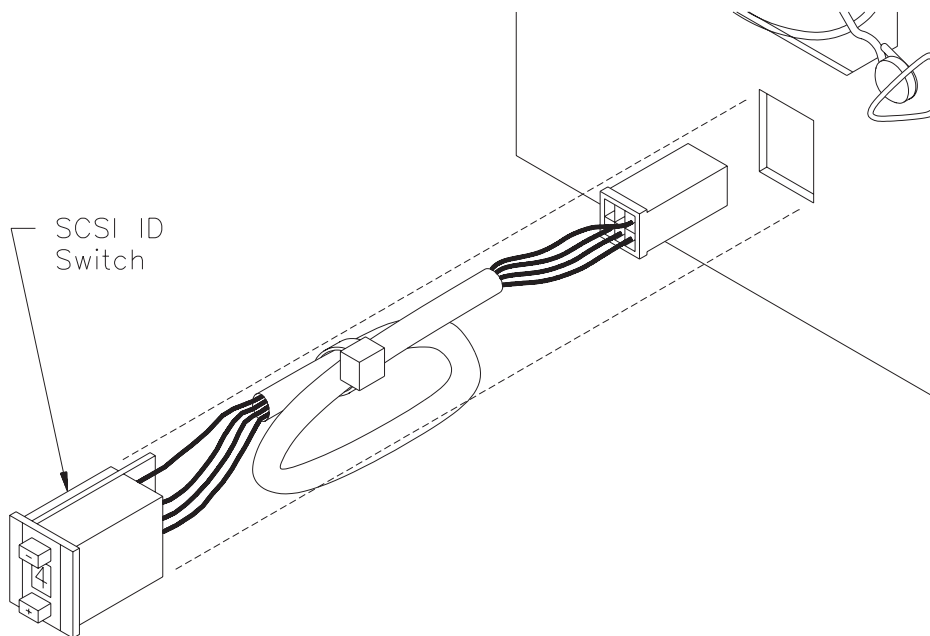

Figure 17-2 SCSI ID switch (removed from the CHS)
5. Locate the SCSI ID switch on the back of the CHS. Figure 17-2 shows the SCSI ID switch removed from the CHS. Disconnect the cable from the interface card, which is located on the back of the CTS.
1. From the outside of the CHS, insert the SCSI ID switch so that the number setting is facing right-side up, as shown in Figure 17-2.